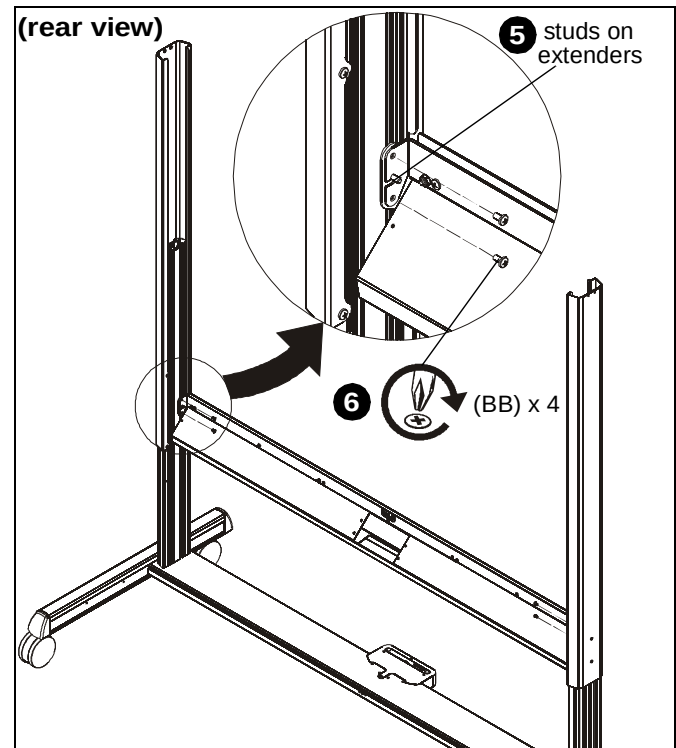

Figure 3
5. Hang screen tray and cross assembly (D) onto studs on column extenders (J and K). (See Figure 3)
6. Use four #10-24 Phillips pan machine screws (BB) to secure screen tray and cross assembly (D) to column extenders (J and K). (See Figure 3)